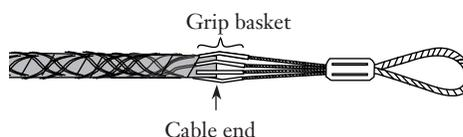

Figure 27
5.17 Walk the grip over the friction tape-covered cable core until the cable end is in the middle of the grip basket (Figure 27).